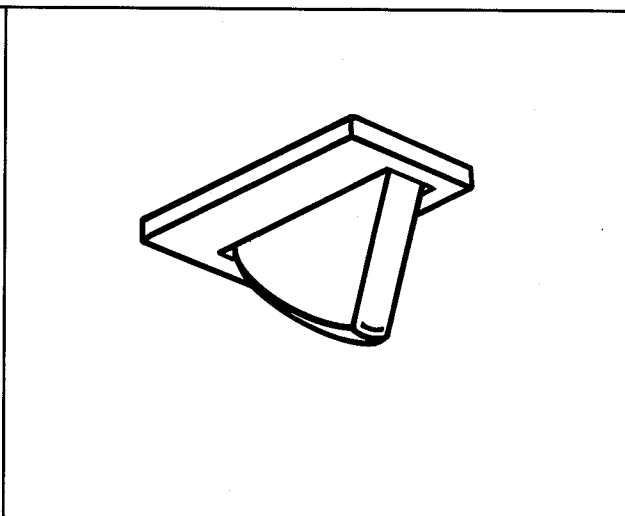

Figure 22
a. Ease door slowly shut and visually observe if refrigerator doorliner engages on/off light switch to assure door is shutting off light when door is in closed position. See Figure 22.